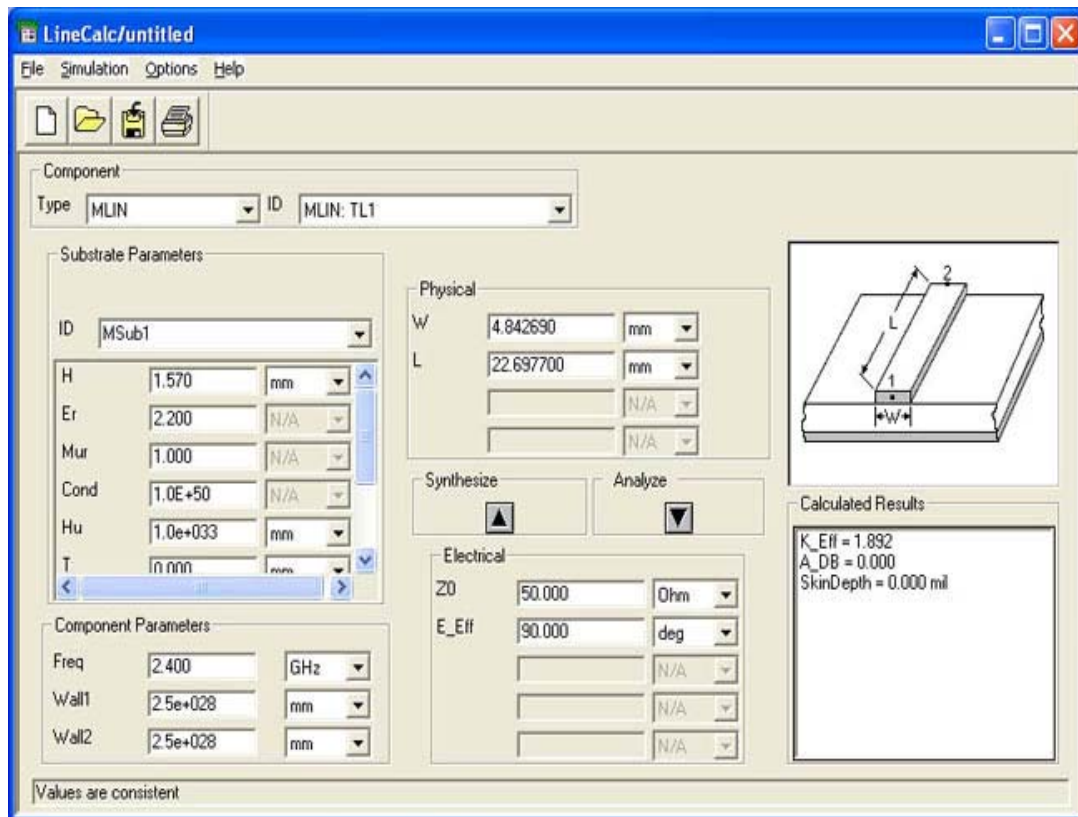
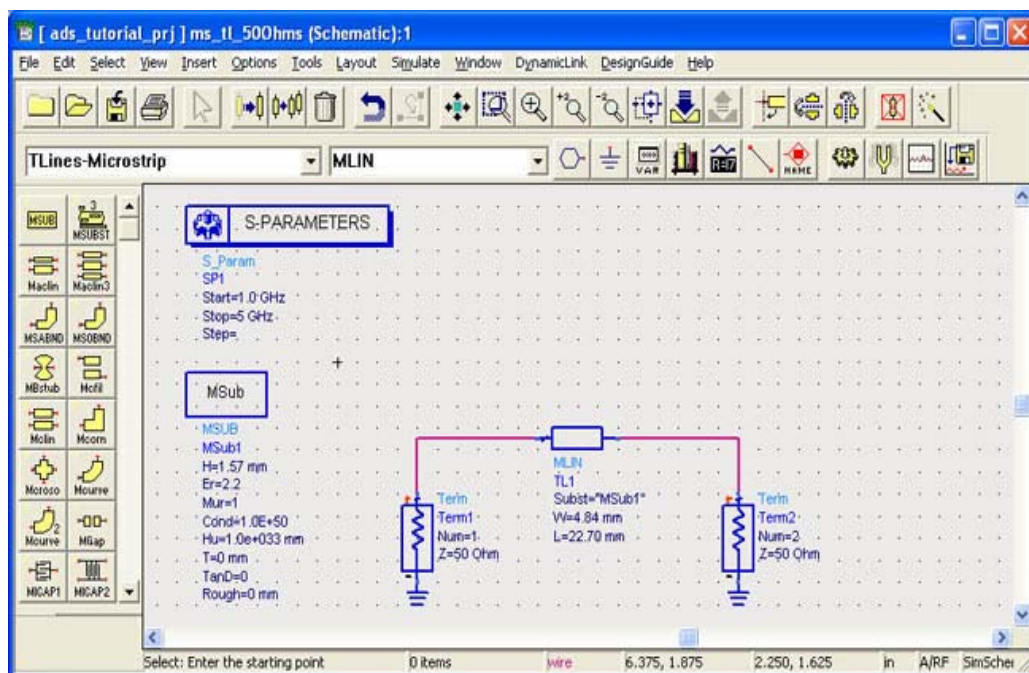

Figure 4. LineCalc window.
Figure 5. Completed layout.
Next, place a **MLIN** component onto the layout region and connect it to the two **Term** components. The width (W) and length (L) of the **MLIN** component has to be changed to obtain the correct characteristic impedance and phase shift, respectively. To calculate the required width (W) to provide a 50 Ohm characteristic impedance, select the **MLIN** component and then go to *Tools>LineCalc>Send Selected Component to LineCalc* enter a design frequency of 2.4 GHz. Fig. 4 shows the LineCalc window. It is important to double check the substrate definition. For the Electrical properties enter 50 for the impedance and 90 for the E_Eff (effective electrical length). Once you are done click on synthesize and the width (W=4.84 mm) and length (L=22.70 mm) will be calculated. Enter these values for the **MLIN** component. The finished layout window should look like Fig. 5.